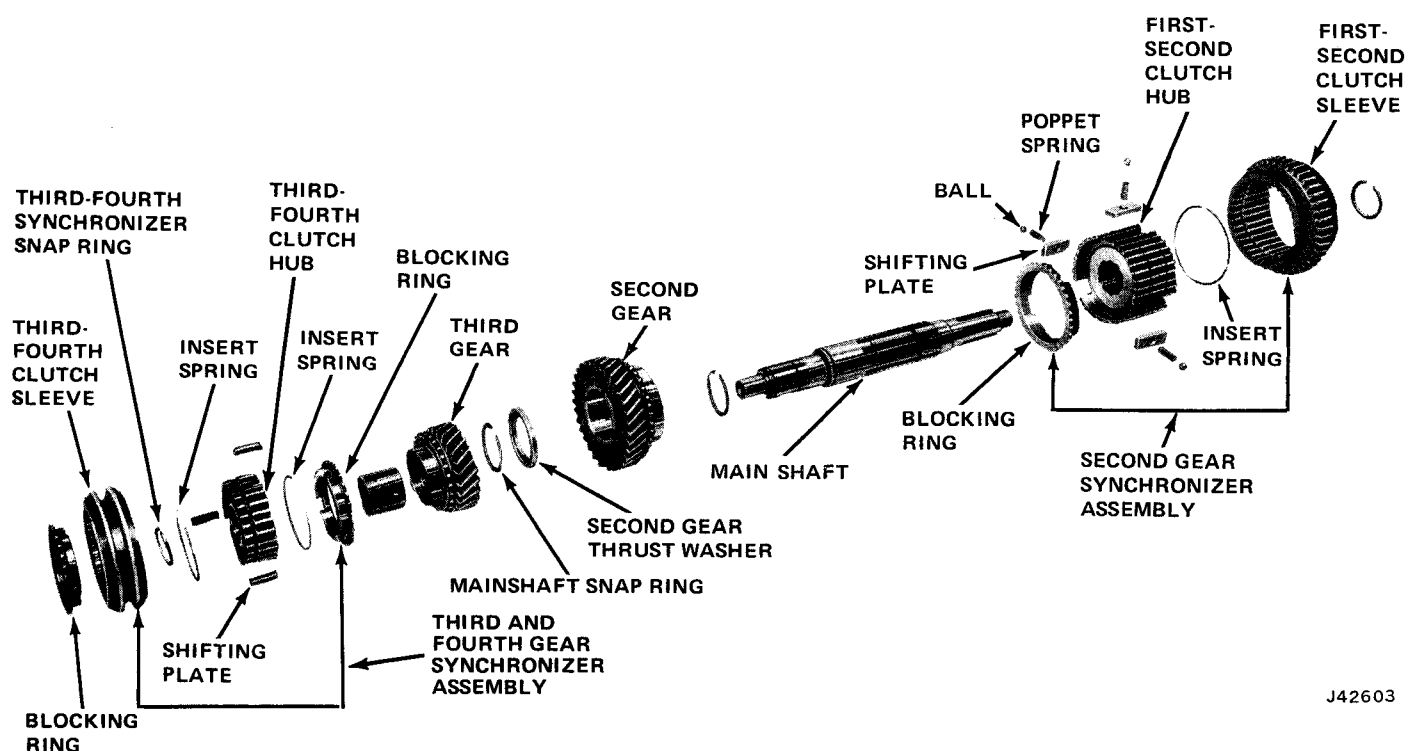

Fig. 6-36 Main Shaft Assembly
(4) Remove First-Second synchronizer snap ring and remove First-Second synchronizer assembly (fig. 6-36).
(5) Move Second gear rearward. Remove Second gear snap ring and remove Second gear.
(6) Punch alignment marks on clutch hubs and sleeves for assembly reference.
(7) Remove insert springs and shifting plates from Third-Fourth synchronizer assembly and separate sleeve and hub.
(8) Position First-Second synchronizer assembly on bench with shift fork groove facing upward. Wrap cloth around sleeve (to avoid losing shift plate lock balls) and separate sleeve and hub.
(9) Remove cloth from First-Second synchronizer assembly and remove lock balls, springs, and shift plates.